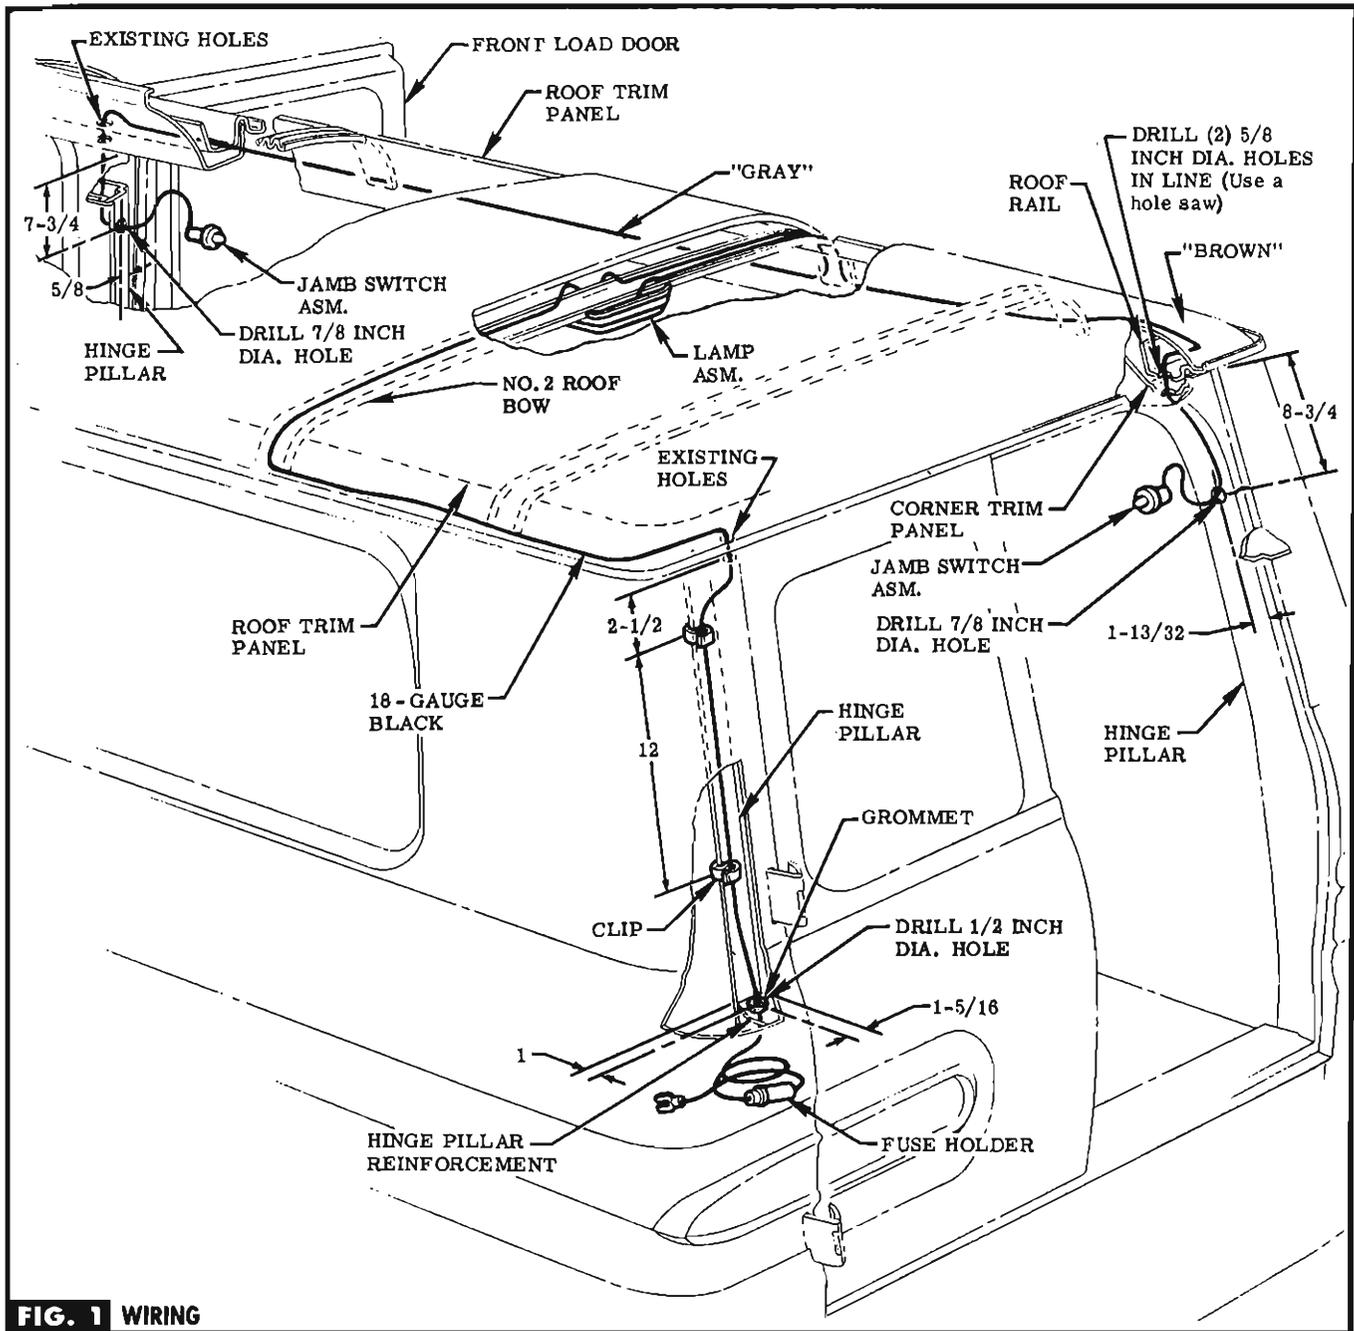
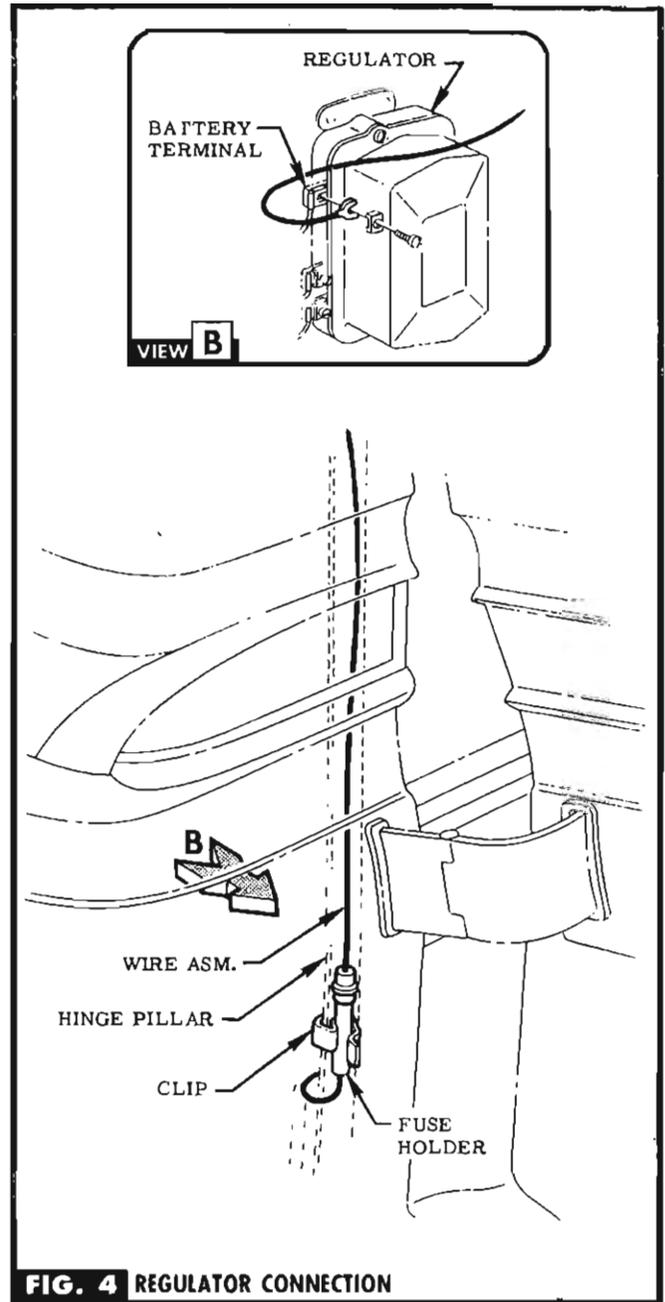

FIG. 1 WIRING
FIG. 4 REGULATOR CONNECTION
STEP 2 LOCATE, CENTER PUNCH, & DRILL HOLE IN L. H. REAR DOOR HINGE PILLAR REINFORCEMENT. SEE FIG. 1.
STEP 3 PUSH BARE END OF WIRE ASM. THRU GROMMET & SLIDE GROMMET ALONG WIRE TO A POINT ABOUT (12) INCHES FROM FUSE HOLDER. THREAD BARE END OF WIRE THRU DRILLED HOLE FROM UNDER REINFORCEMENT. THEN CLIP WIRE TO PILLAR & ROUTE TO FRONT OF SECOND ROOF BOW FROM REAR. SEE FIG. 1. USE STIFF WIRE TO ASSIST ROUTING THRU HOLES & AROUND CORNERS.
STEP 5 LOCATE, CENTER PUNCH, & DRILL HOLES IN R. H. FRONT LOAD DOOR & R. H. REAR DOOR HINGE PILLARS. SEE FIG. 1.
STEP 6 FROM INSIDE OF VEHICLE LOCATE, CENTER PUNCH, & CUT HOLES IN R. H. CORNER TRIM PANEL & ROOF RAIL, IF ACCESS HOLES DO NOT EXIST. LOCATE SYMMETRICALLY OPPOSITE TO HOLES ON L. H. SIDE. SEE FIG. 1. **CAUTION** Do not drill thru roof panel.
STEP 10 PUSH WIRES OVER BEHIND FLANGES OF ROOF BOW. ROUTE BROWN & GRAY WIRES BEHIND R. H. ROOF TRIM PANEL THRU ACCESS HOLES TO DOOR HINGE PILLARS. SEE FIG. 1, SHEET 1. **NOTE** Use stiff wire to
STEP 11 PULL TERMINALS OF BROWN & GRAY WIRES OUT THRU DRILLED HOLES. INSERT THEM INTO METAL CONNECTORS ON END OF JAMB SWITCHES & PUSH SWITCHES INTO PLACE. SEE FIG. 1.
STEP 12 ROUTE TERMINAL END OF WIRE ASM. TO FRONT OF REGULATOR, CLIP FUSE HOLDER TO HINGE PILLAR & CONNECT WIRE TO BATTERY TERMINAL ON REGULATOR. SEE FIG. 4 & VIEW B, & ALSO CLIP WIRE TO HINGE PILLAR. SEE FIG. 1.